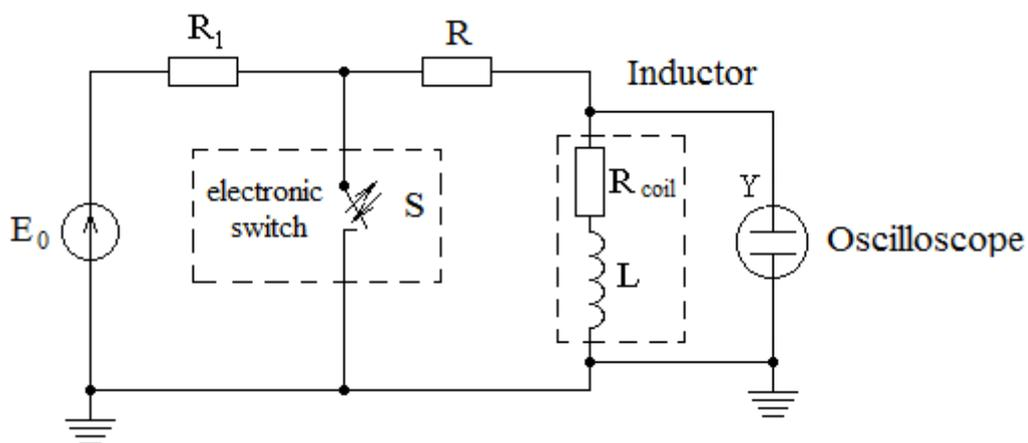

Figure 1.2 – Scheme for research of transient in RL -circuit
- 8) Write down the expressions of instantaneous values of $u_L(t)$, $i_L(t)$ for the circuit in figure 1.2 after the switch is opened and plot their graphs.
1.2.6 Assemble the electric circuit in figure 1.2.
1.3.5 Calculate the time constants τ and damping factors α of the circuit shown in figure 1.2 for two given options of the inductance value (table 1.3): τ_{RL1} , α_{RL1} и τ_{RL2} , α_{RL2} . It is necessary to take into account of R_{Coil} – the resistance of the inductor, then the total resistance of the circuit will be of $R = R_1 + R + R_{coil}$.
1.3.6 Determine the time constant τ_{RL} and the damping factor α_{RL} of the RL - circuit in figure 1.2 by the images of the voltage curves across the resistor R of $u_R(t)$ for two given options of the inductance (points 1.2.8 and 1.2.10).
1.3.7 Theoretically calculate a current of $i_L(t)$ and a voltage of $u_{coil}(t)$ time function by the known parameters of the RL – circuit in figure 1.2 according to assignment option (table 1.3).